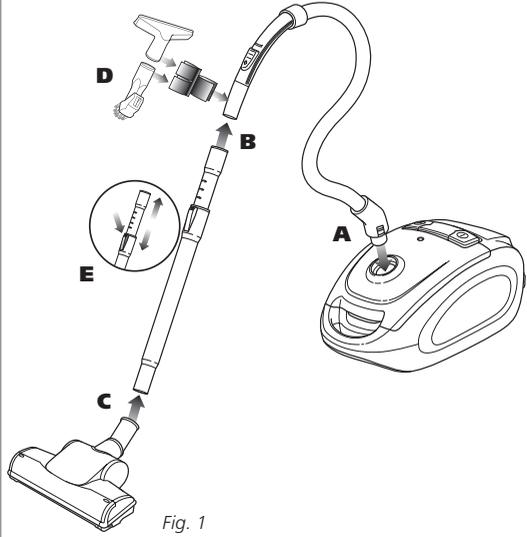

Fig. 1
- 2** Insert the flexible hose (A) into the air intake duct. Push it in until you hear it “click”, indicating that it is locked in place. (Fig. 1)
- 3** Firmly push the telescopic tube (B) into the handle end of the flexible hose until it is secure and tight. (Fig. 1)
- 4** Push the end of the telescopic tube into the air driven floor brush (C). (Fig. 1)
- 6** Snap the on-board tool holder onto the lower part of the flexible hose handle. (D) Store the combo crevice/dusting tool and the upholstery brush on the accessory holder. (Fig. 1) Place the accessories on the side so that they will not block the manual suction release.
- 7** Press the telescopic tube release (E) to extend or retract the telescopic tube. (Fig. 1)